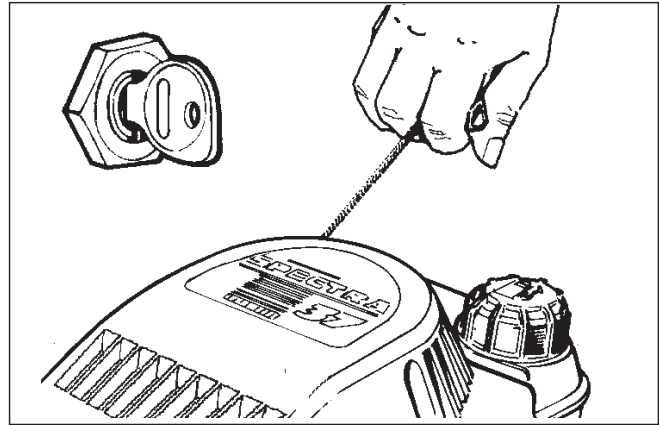

Fig. 2-2
- Pull starter handle (Fig 2-2) with a quick firm action. Allow the rope to recoil back into its housing whilst retaining grip on handle.
- Grasp starter handle (Fig 2-2) and slowly pull rope out until a slight resistance is felt. Let rope rewind slowly. Then pull rope with a rapid full arm stroke.
ELECTRIC STARTER (Fig 2-2)